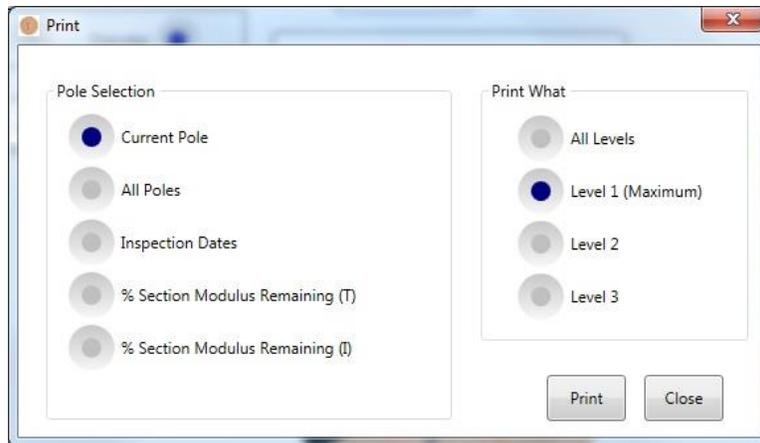

Figure 3-6. Current Pole
- *Current Pole* - To use the first option, the user must first **Select Data**. Otherwise, the **Print What** group buttons and **Print** button will be disabled. Data for one or all levels (if damage data exists) may be printed. The print dialog is shown in Figure 3-6.